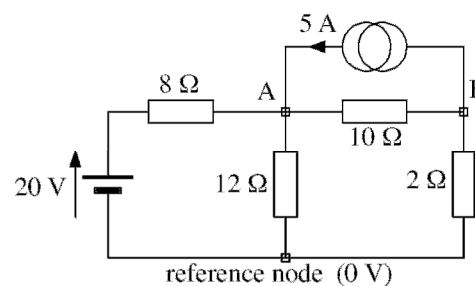

Figure 1b
- b. For the circuit of figure 1b, use nodal analysis to find the node voltages  $V_A$  and  $V_B$  measured with respect to the reference node.